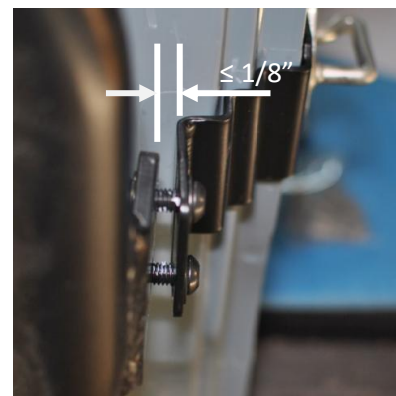

Figure 7: Gap Between Bracket and Product
- d. There should be a small gap at the center bracket before tightening (0-1/8"). If the gap is larger than 1/8", use the provided 1/8" washers as shims (PN 70448) to close the gap to  $\leq 1/8"$  (See Figure 7).